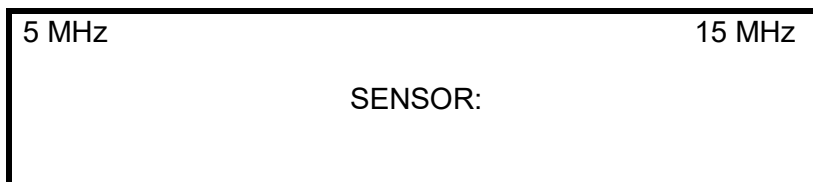

Figure 3-7: Sensor Menu
- 1.b. First the sensor frequency must be set to match the sensor being used ("5 MHz or 15 MHz). See Figure 3-7.